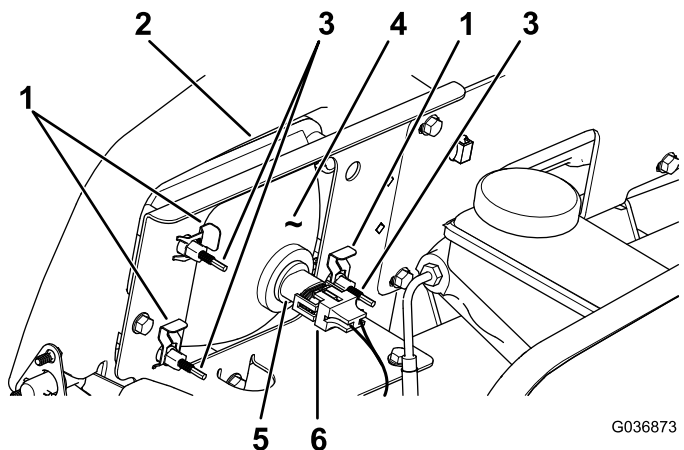

Figure 36
3. Disconnect the electrical connector for the harness from the connector of the lamp assembly (Figure 36).
4. Remove the speed clips that secure the headlight to the headlight bracket (Figure 36).
5. Remove the headlight assembly by moving it forward through the opening in the front bumper (Figure 36).
6. Install the new headlight through the opening in the bumper (Figure 36).
8. Connect the electrical connector for the harness to the connector of the lamp assembly (Figure 36).
2. At the back of the headlight assembly, rotate adjustment screws (Figure 36) to pivot the headlight assembly and align the position of the cast beam.